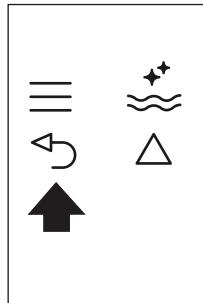

Fig. 25
- ▶ Press the  icon (B6) (Fig. 25) twice to exit the menu.
- ▶ Press the \leftarrow icon (B6) (Fig. 25) twice to exit the menu.